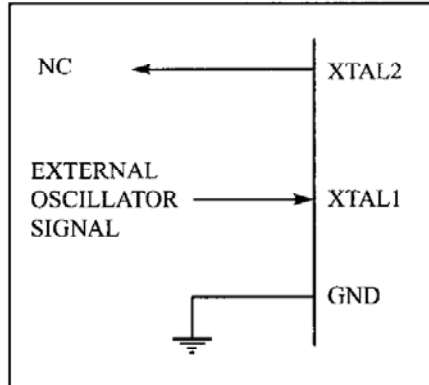

Figure 8-6a. XTAL1 Connection to an External Clock Source
- By setting CKSEL0...3 bits to 0000, we can use an external clock source for the CPU. In Figure 8-6a you see the connection to an external clock source